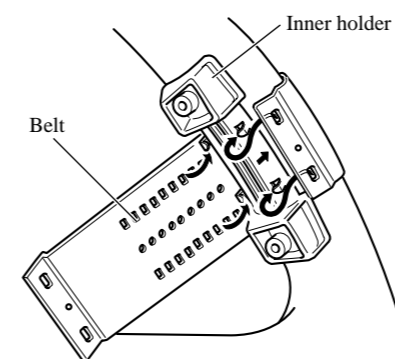

Fig. 15
**1. Secure inner holder to the inner circumference of the steering wheel with belt. (Fig. 15)**